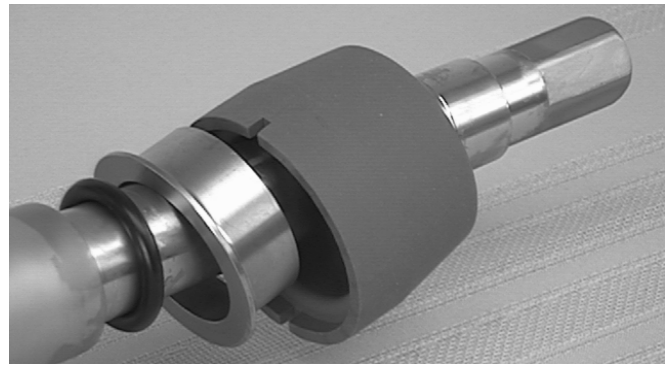

Figure 20. Rear Seal Removal
- G. After five minutes, open spigot to expel sanitizing solution. Drain all solution from freezer using all three spigots (See Figure 20).